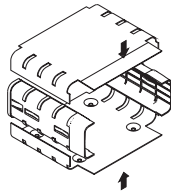

Figure 3 Cradle Reassembly
1. Reassemble the cradle by clipping one plastic side moulding to each side of the mounted metal cover (as shown in Figure 3). Take care to locate the ribs on the plastic part in the slots on the shoulders of the metal cover. They will only fit one way round.